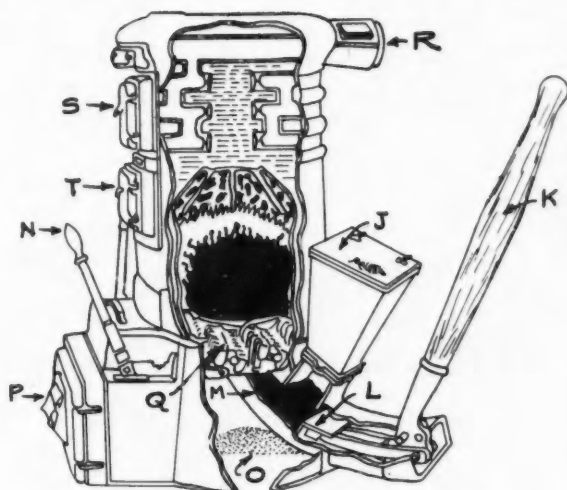

Fig. 3. Water Heater of the Underfeed Type.
"Another type of heater which is even more radical than the one just described, is shown in Fig. 3. This heater is of the underfeed type and is built in hot water, steam and furnace constructions.
"How this is accomplished is indicated in Fig. 3. The coal is here placed in the hopper (J) and forced into the center of the fire pot at (M) by the plunger (L) at the bottom of the hopper, this plunger being operated by a long lever arm (K). The coal is forced up in the center of the fire pot and overflows out onto